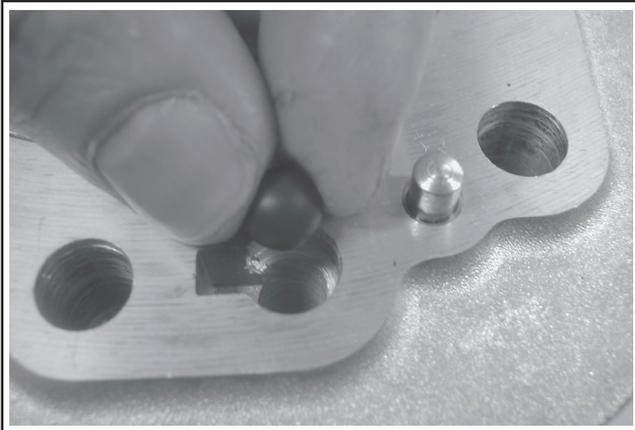

Figure 10-33. Installing Drain Back Check Ball.
2. If the crankshaft has not been turned since the installation of the crank gear, turn it one (1) complete revolution. This will set the piston at top dead center (TDC) of the compression stroke, for proper valve lash adjustment later.
3. Install the drain back check ball into the keyhole slot in the top of the crankcase. See Figure 10-33.